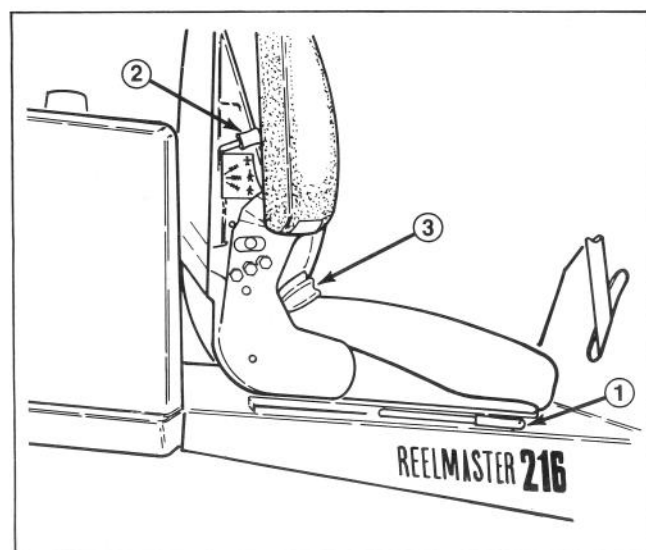

Figure 22
**Deluxe Seat Adjustments** (Fig. 22) — **Fore and Aft Adjustment** — Move lever on right side of seat outward, slide seat to desired position and release lever to lock seat into position.